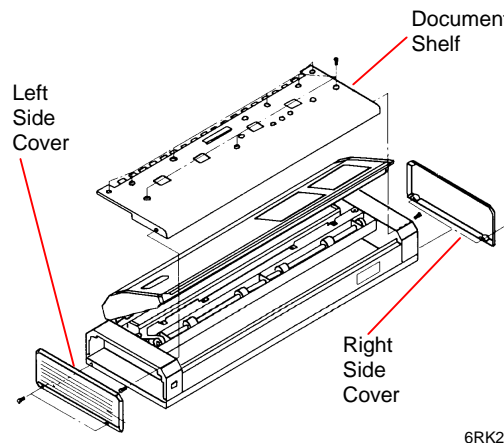

Figure 1. Removing the Covers
3. (Figure 1): Remove the following: